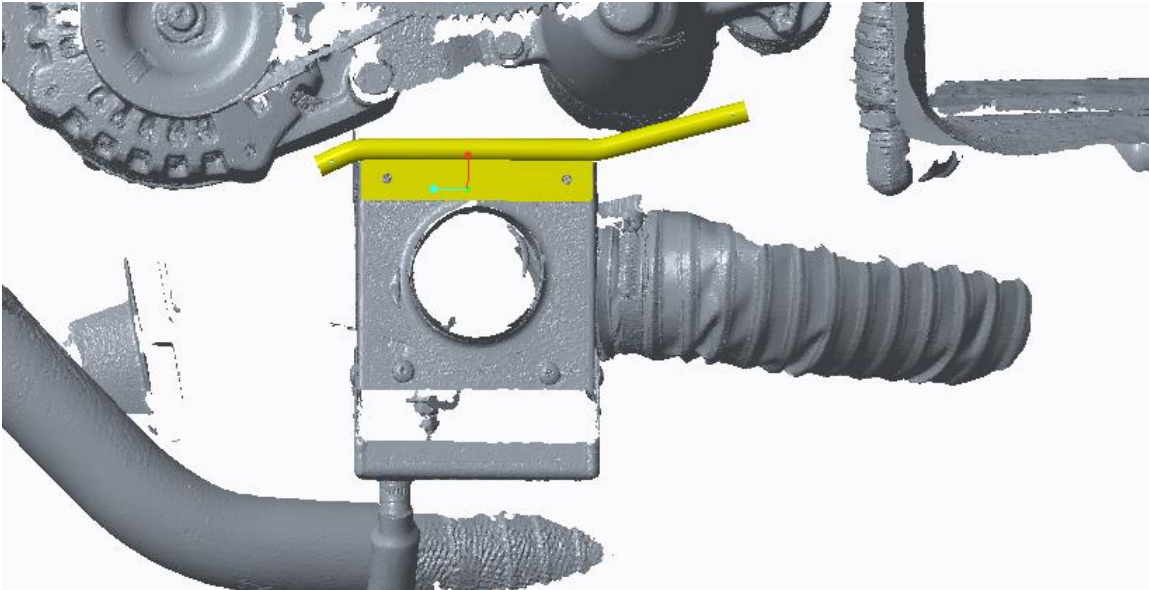

Figure 40 – New Spring Bracket Location
- B. Aircraft with an IO-360 Engine will require a modified spring bracket on the Alternate Air Valve Box. The spring bracket will need to be replaced by the AC-02094 Spring Bracket Assembly in order to prevent interference with the new alternator. See Figure 40.